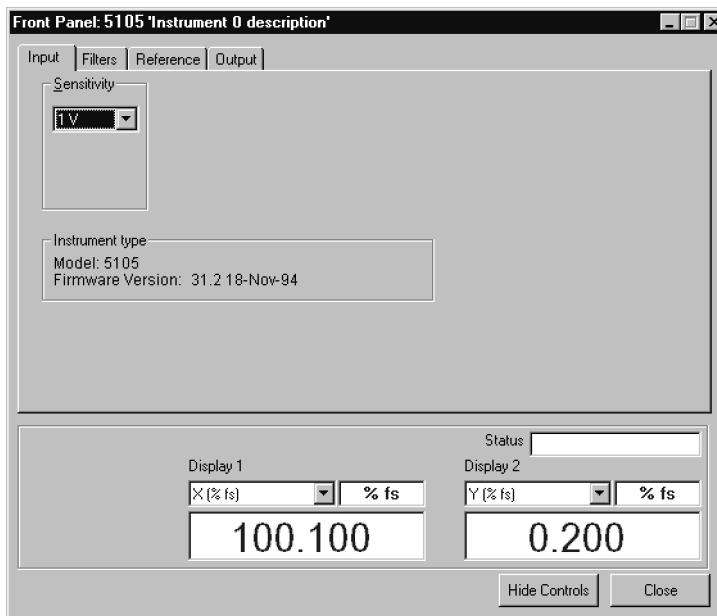

Figure 2-3, 5105Acquire Software Remote Front Panel
- 11) Once the main window is displayed, select the **Hardware, Control 5105 xxxx** menu item (where xxxx is the instrument description), which opens a remote front panel for the lock-in amplifier. This takes the form of a tabbed dialog box, similar to that shown in figure 2-3, which allows the instrument controls to be adjusted and the measured outputs to be displayed.
to that shown in figure 2-3, which allows the instrument controls to be adjusted and the measured outputs to be displayed.